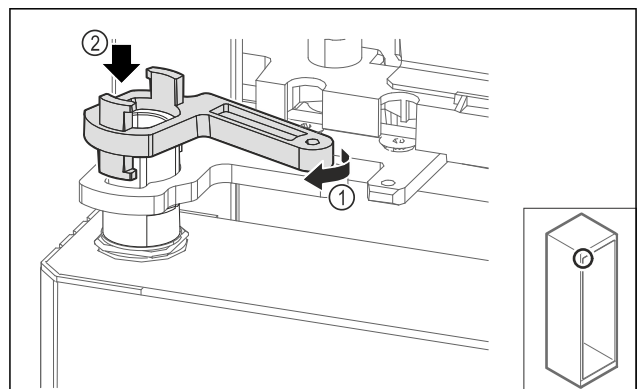

Fig. 65
- ▶ Turn the swap bearing block slightly and Fig. 65 (1) place it on the sleeve Fig. 65 (2).